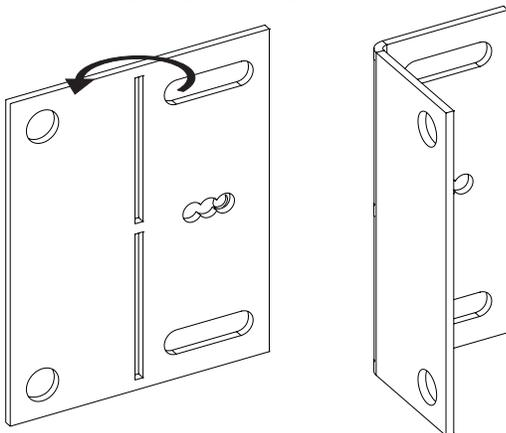

Figure 9
7. Bend the nailing flanges 90 degrees as shown in **Figure 9.**